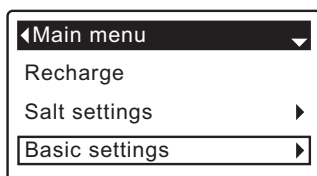

FIG. 48
1. From any of the rolling status screens, press the SELECT (O) button to display the **Main menu**.
2. Press the DOWN (▼) button to scroll through the menu options until **Basic settings** is highlighted (See Figure 48).